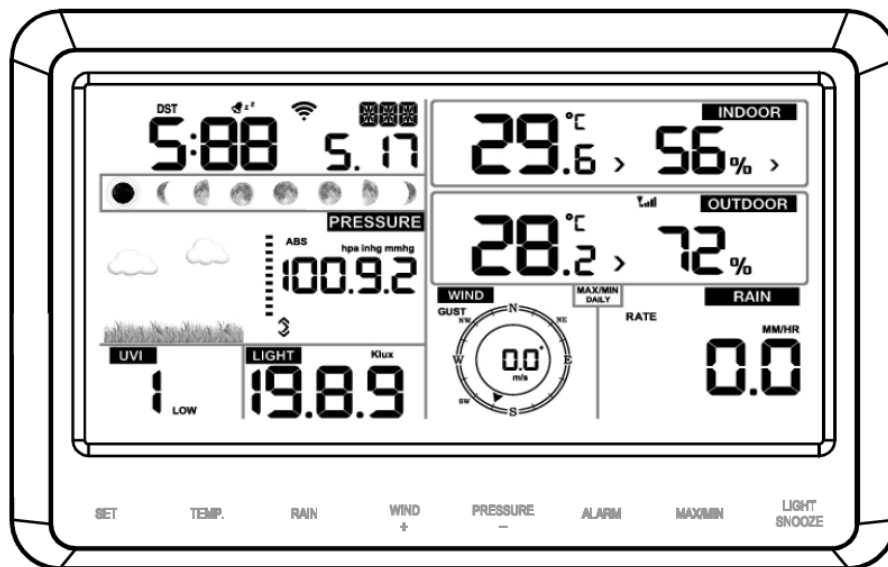
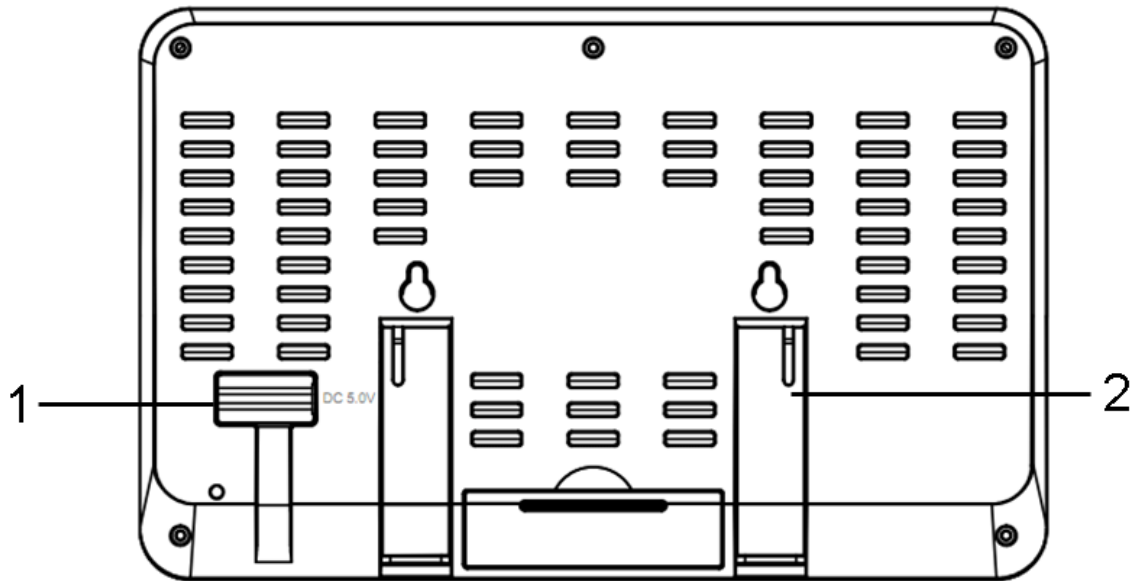

Figure 7
Figure 8
The front and back of the display console is shown in Figure 7 and Figure 8.
Reference Figure 8 (1). Connect the display console power jack to AC power with the power adapter (included), (2) unfold the desk stand, and place 5 to 10 feet from the sensor array, and wait several minutes for the remote sensors to synchronize with the display console.